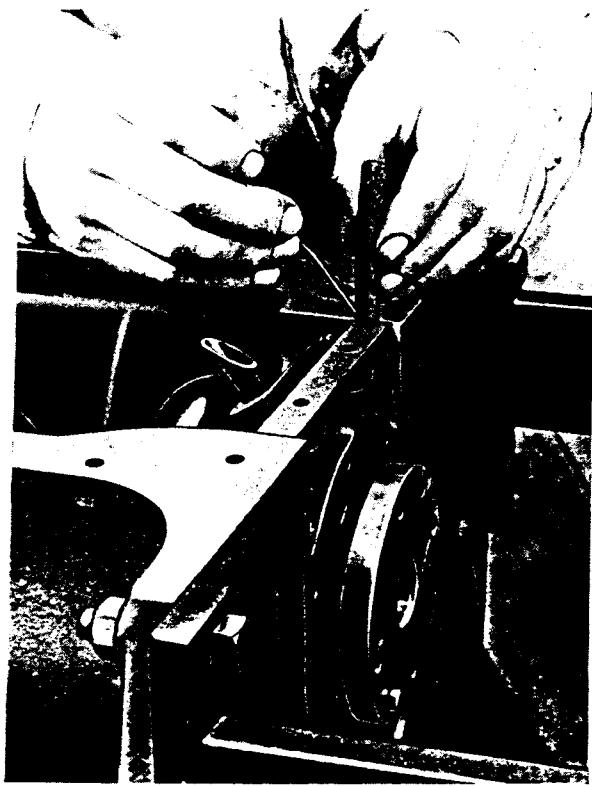

FIG. 47
- Soak rear bearing cap felt seals in shellac and insert in their grooves, using a suitable rod as shown in Fig. 47.